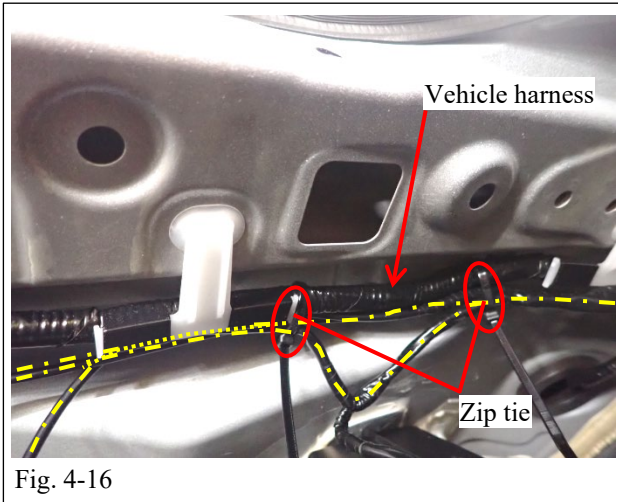

Fig. 4-16
(t) Using two (2) zip ties attach the illuminated trunk sill to the vehicle harness running across the trunk opening (Fig. 4-16).